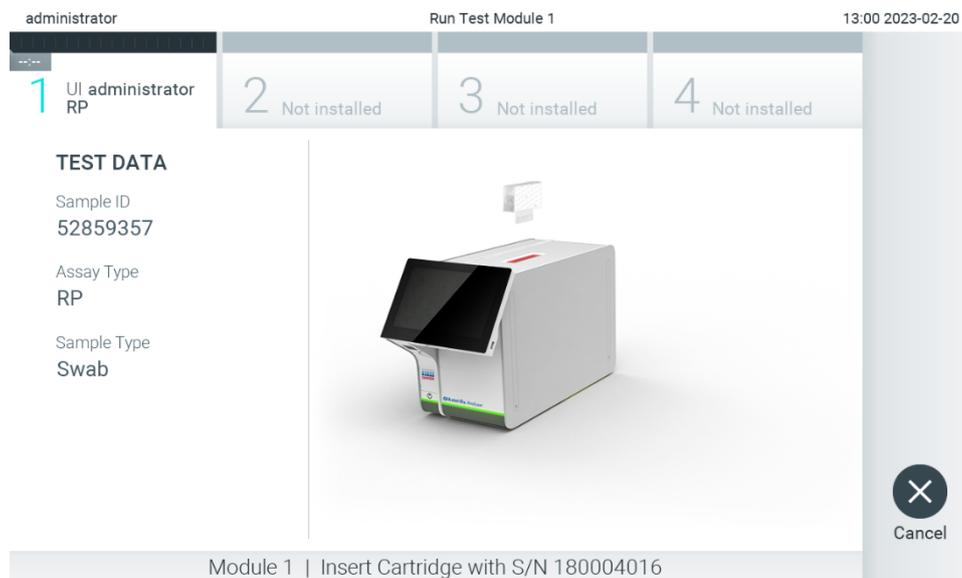

Figure 27. Inserting QIAstat-Dx assay cartridge into QIAstat-Dx Analyzer 2.0.
- Make sure that both sample lids of the swab port and main port of the QIAstat-Dx assay cartridge are firmly closed. When the cartridge entrance port on the top of the QIAstat-Dx Analyzer 2.0 automatically opens, insert the QIAstat-Dx assay cartridge with the bar code facing to the left and the reaction chambers facing down (Figure 27).